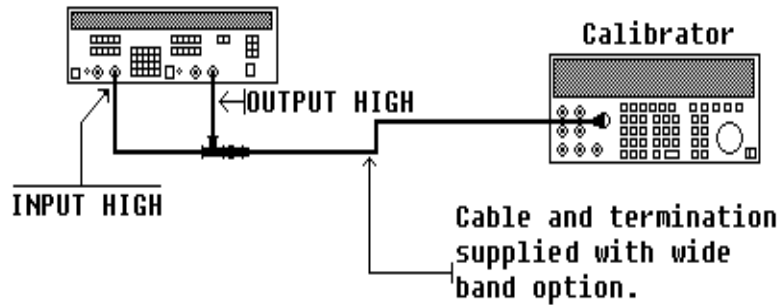

Figure 7. SINAD measurement.
(1) Connect equipment as shown in figure 7.